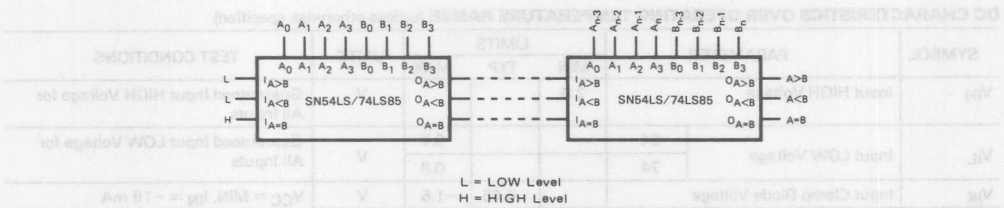
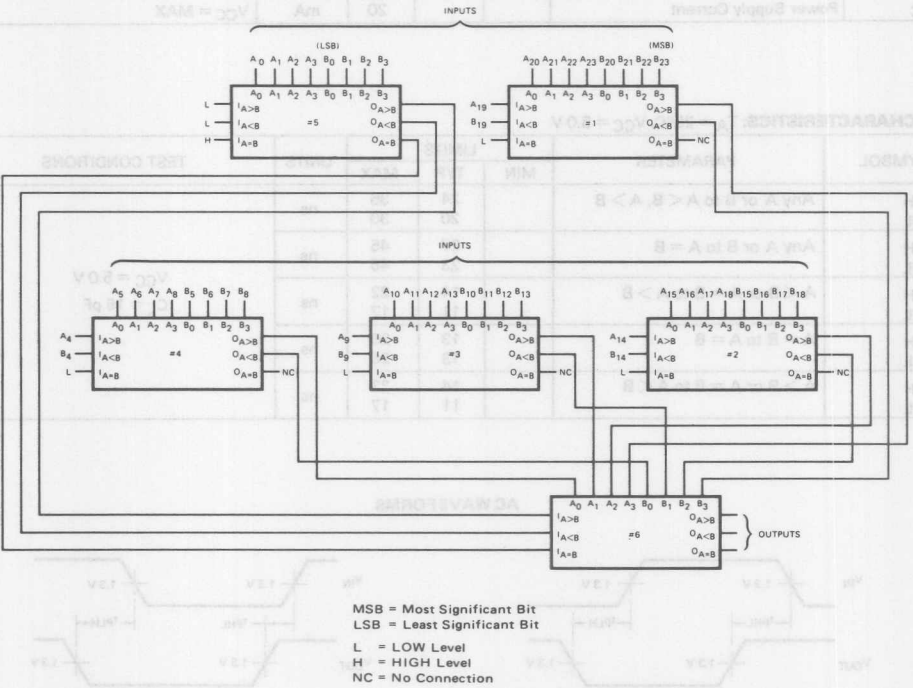

Fig. 1. COMPARING TWO n-BIT WORDS
Fig. 2. COMPARISON OF TWO 24-BIT WORDS
**DESCRIPTION** — The SN54LS/74LS85 is a 4-Bit Magnitude Comparator which compares two 4-bit words (A, B), each word having four Parallel Inputs ( $A_0$ - $A_3$ ,  $B_0$ - $B_3$ );  $A_3$ ,  $B_3$  being the most significant inputs. Operation is not restricted to binary codes, the device will work with any monotonic code. Three Outputs are provided: "A greater than B" ( $O_A > B$ ), "A less than B" ( $O_A < B$ ), "A equal to B" ( $O_A = B$ ). Three Expander Inputs,  $I_A > B$ ,  $I_A < B$ ,  $I_A = B$ , allow cascading without external gates. For proper compare operation, the Expander Inputs to the least significant position must be connected as follows:  $I_A < B = I_A > B = L$ ,  $I_A = B = H$ . For serial (ripple) expansion, the  $O_A > B$ ,  $O_A < B$  and  $O_A = B$  Outputs are connected respectively to the  $I_A > B$ ,  $I_A < B$ , and  $I_A = B$  inputs of the next most significant comparator, as shown in Figure 1. Refer to Applications section of data sheet for high speed method of comparing large words.
Figure 2 shows a high speed method of comparing two 24-bit words with only two levels of device delay. With the technique shown in Figure 1, six levels of device delay result when comparing two 24-bit words. The parallel technique can be expanded to any number of bits, see Table 1.
The SN54LS/74LS85 can be used as a 5-bit comparator only when the outputs are used to drive the A0-A3 and B0-B3 inputs of another SN54LS/74LS85 as shown in Figure 2 in positions #1, 2, 3, and 4.